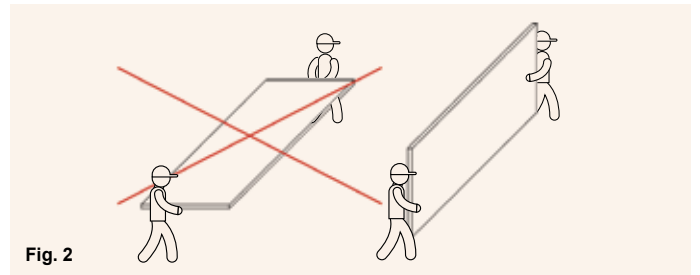

Fig. 2
**VMG Lignum Board | Wall T&G2** should be carried by hand in a vertical position, not horizontal, in order to avoid breaking (Fig. 2).